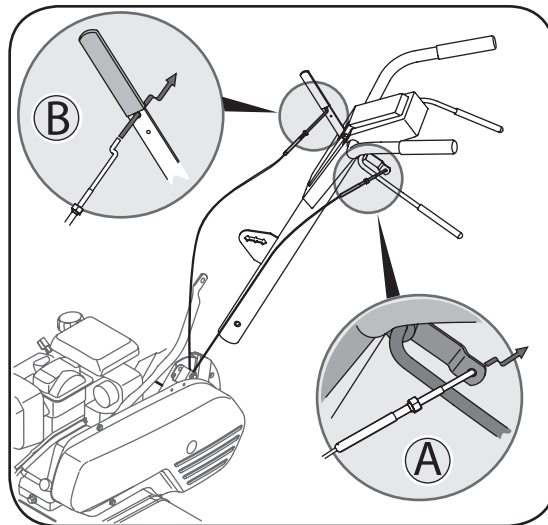

Figure 3-2: Insert cables into levers.
2. Hook the "Z" end of the forward clutch cable (A) into the forward tine engagement lever Figure 3-2.
3. Hook the "Z" end of the reverse clutch cable (B) into the reverse tine engagement lever Figure 3-2.